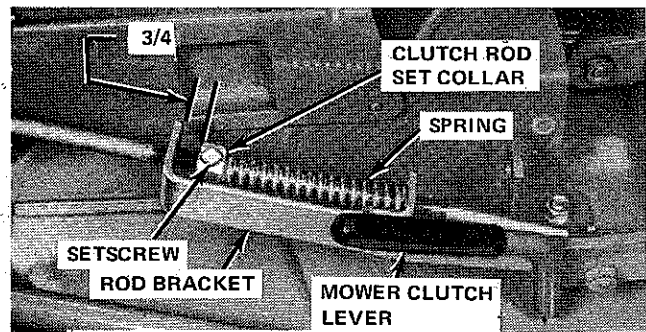

Figure 5-2. Mower Clutch Lever Adjustment
4. Mower Clutch Lever-Disengaged, lever up (Figure 5-2).
A. When mower clutch lever is engaged (lever down), there should be approximately 3/4-inch clearance between clutch rod set collar and upper leg of rod bracket (Figure 5-2). If adjustment is necessary, loosen collar setscrew, and adjust accordingly